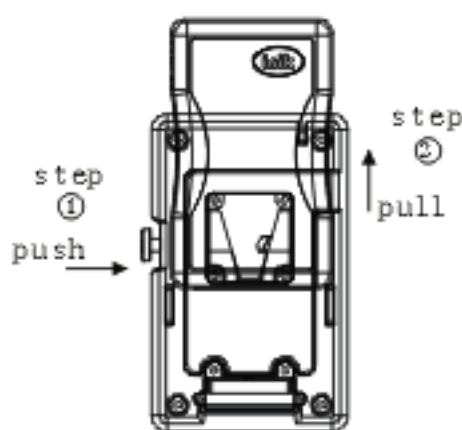

Fig. 4
- To dismount the battery from the charger, press the side lock (Step1) and slide out (Step 2) the battery. (Fig. 4)